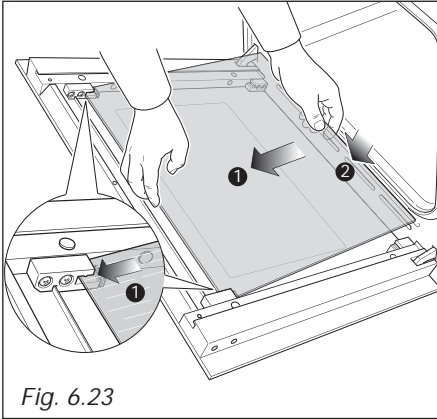
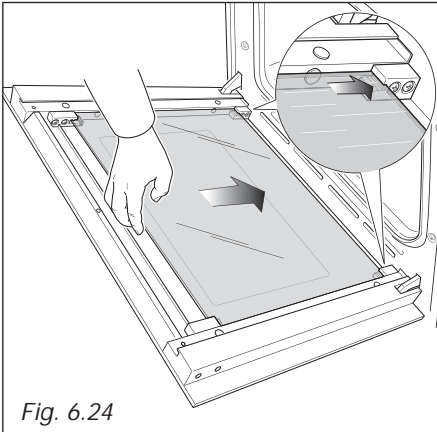

Fig. 6.23
Fig. 6.24
- Gently insert the top edge of the pane into the top clamps (arrow 1 in fig. 6.23), then lower the pane and insert the bottom edge into the bottom clamps (arrow 2 in fig. 6.23); and then slide the pane into position (fig. 6.24).